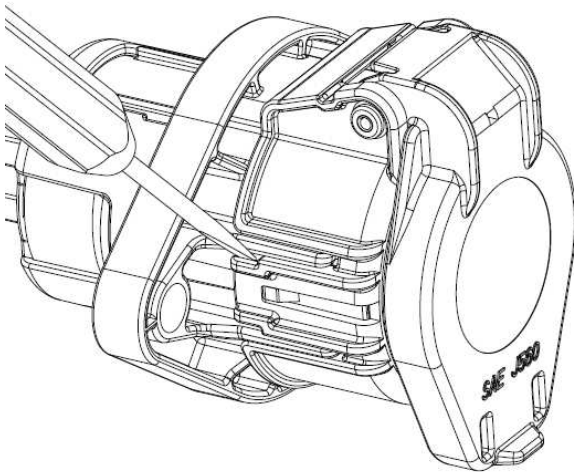

Figure 5
1. Insert a small, flat blade screwdriver into the notch between the breakaway latch and fixed receptacle housing. See Figure 5.